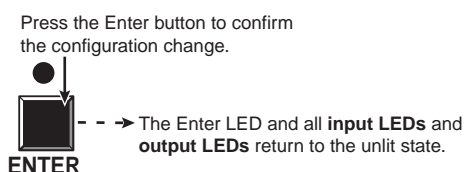

Figure 3-14 — Press the Enter button
5. Press and release the Enter button (figure 3-14).